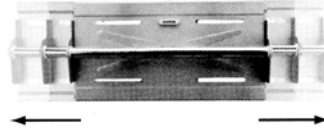

Fig. 1 - Expand the mount to fit your display
2. Expand the wall plate of the mount enough so that both mounting arms can fit over the crossbar when they are attached to the display (Fig. 1). Be careful not to extend the mount wider than the display.
4. With the help of another person, mark off six (6) locations for securing the mount to the wall.